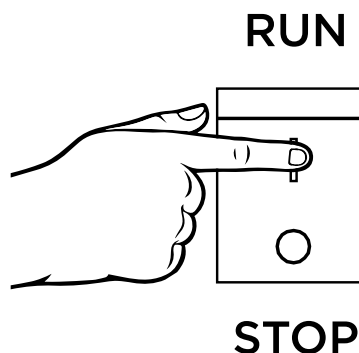

Figure 10 - Engine Control Switch - RUN
5. Push the engine control switch into the RUN position (see Figure 10 below).